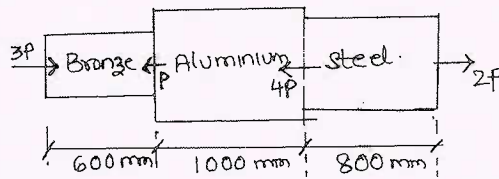

Fig.Q1(c)
- c. Determine the value of P that will not exceed a maximum deformation of 2mm or a stress of 120 MPa in steel, 80 MPa in Aluminium and 115 MPa in bronze (Fig.Q1(c)). Given the following data: